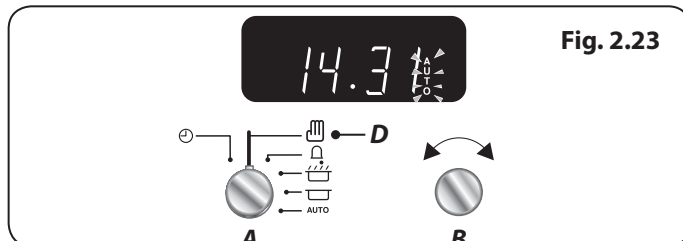

Fig. 2.23
5. Once the specified time has elapsed it will emit an alarm and the Multifunction Oven will stop working. The 'Cooking' symbol on the display will disappear and the word '**AUTO**' will flash (**Fig. 2.23**).
6. When you return, turn the **Timer (A)** knob to the **Manual (D)** setting to return to manual cooking and reset the Multifunction Oven modes once cooking is complete (**Fig. 2.23**).